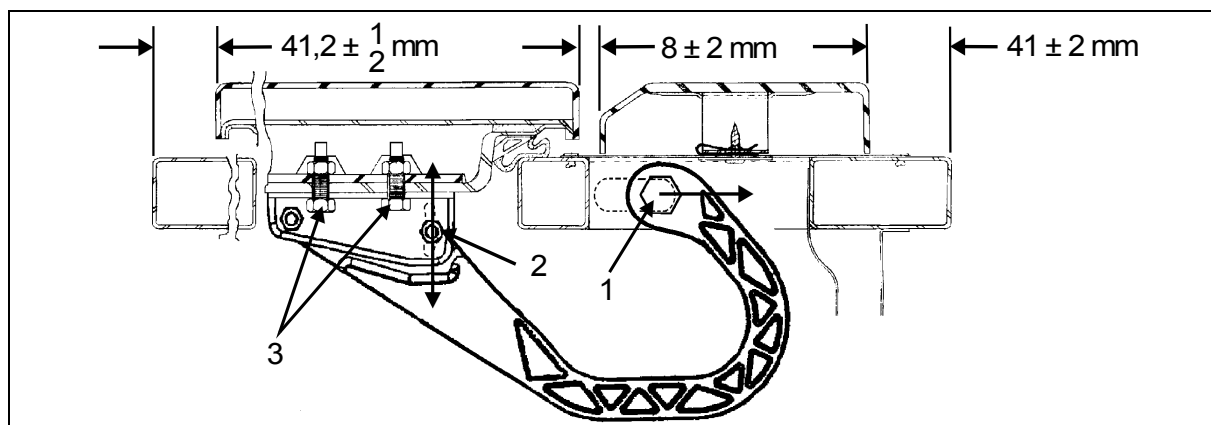

FIGURE 63: EVAPORATOR DOOR
2. Loosen nut (1, Fig. 63).
4. Tighten nut (1, Fig. 63).
5. Loosen nut (2, Fig. 63). Hinge allows the door to be shifted "IN or OUT".
7. Loosen screws (3, Fig. 63). Screws allows the door to be shifted "UP or DOWN".